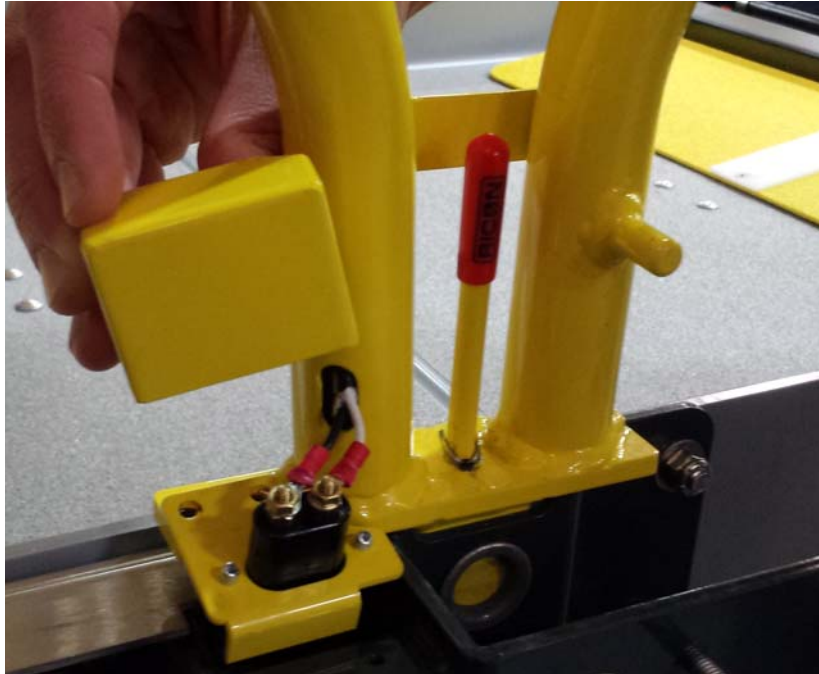

FIGURE 4-48: CONTACT SWITCH ENCLOSURE
- d. Refer to **Figure 4-48**. Remove Contact Switch Enclosure.